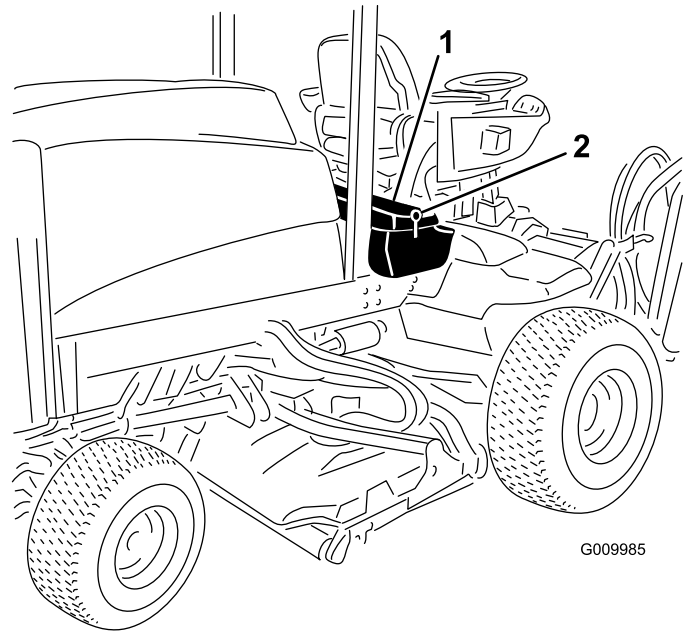

Figure 92
1. Unlatch and raise the operator's console panel (Figure 92).